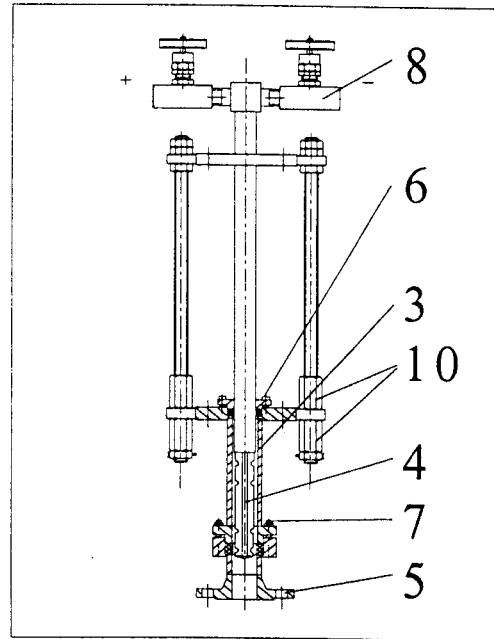

Abb. 15
11. Inspect Flo-Tap assembly to insure that the insert-retract mechanism is fully retracted as shown in Figure 15.